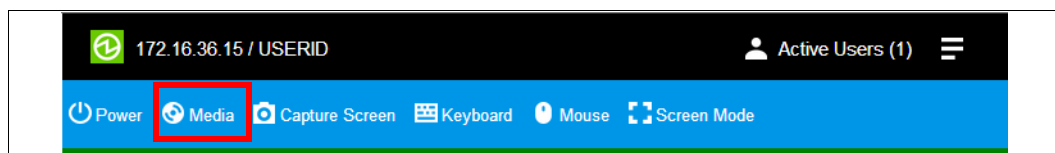

Figure 6-5 Mount an ISO via the Media option
8. The ISO image will now need to be mounted. Click the **Media** option at the top of the remote console screen as shown in Figure 6-5.